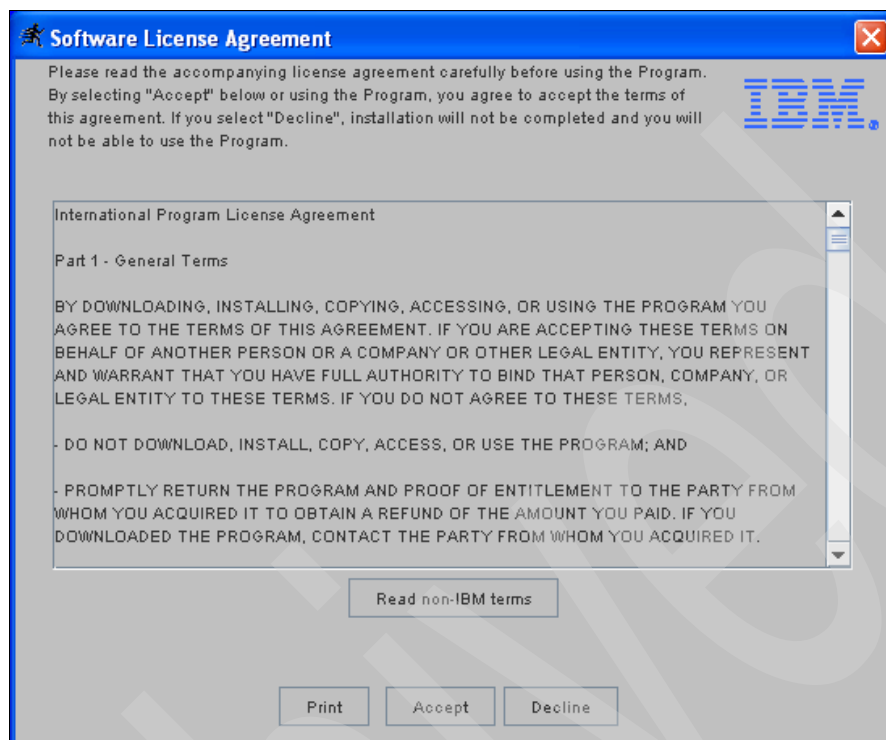

Figure 6-11 TS7530 VE for Tape Console install software license agreement
7. Review the TS7530 VE for Tape Console software license agreement. To accept the terms and conditions specified, click **Accept** as on the panel shown in Figure 6-11.